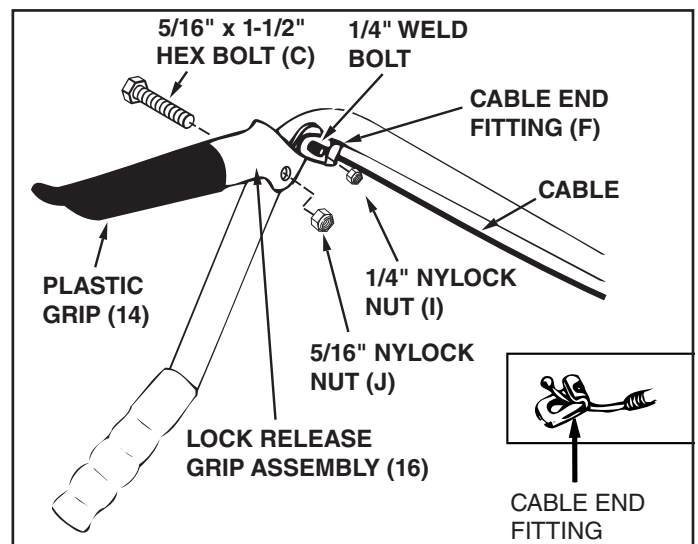

FIGURE 10
STEP 10: Assemble plastic grip (14) onto lock release grip assembly. See figure 10.
- Attach lock release grip assembly to lift handle tube using one 5/16" x 1-1/2" hex bolt (C) and one 5/16" nylock nut (J). Do not overtighten the nut. The grip assembly must pivot freely. See figure 10.
- Assemble the ball end of the cable to a cable end fitting (F) as you did to the other end of the cable. Secure the cable end fitting (F) to the weld bolt on the lock release grip (16) with a 1/4" nylock nut (I). Do not overtighten the lock nut. The cable fitting must pivot freely. See figure 10.